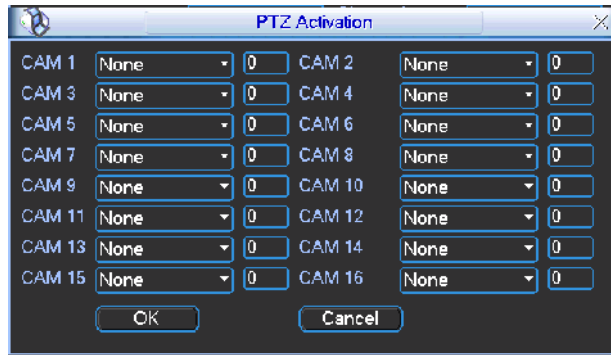

Figure 4-18
- ⌘ PTZ activation: Here you can set PTZ movement when alarm occurs. Such as go to preset, tour & pattern when there is an alarm. Click “select” button, you can see an interface is shown as in Figure 4-18.